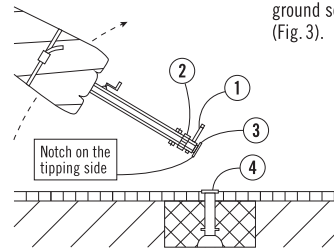

Fig. 3
- Place sunshade upright, until support tube disc (3) lies flat on ground socket disc (4) (Fig. 3).